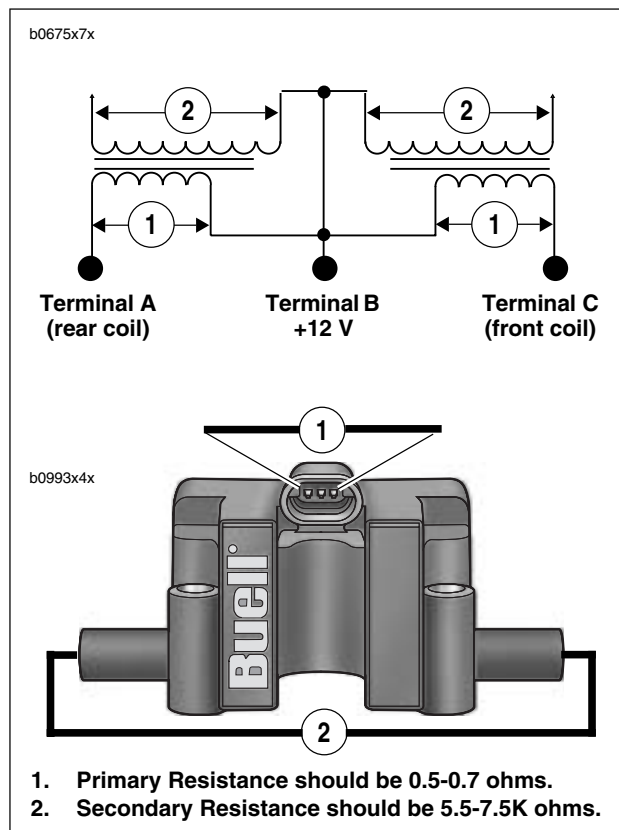

Figure 4-69. Ignition Coil Testing
3. See Figure 4-69. Place multimeter wires on primary coil windings (1).
3. See Figure 4-69. Place multimeter wires on secondary coil windings (2).